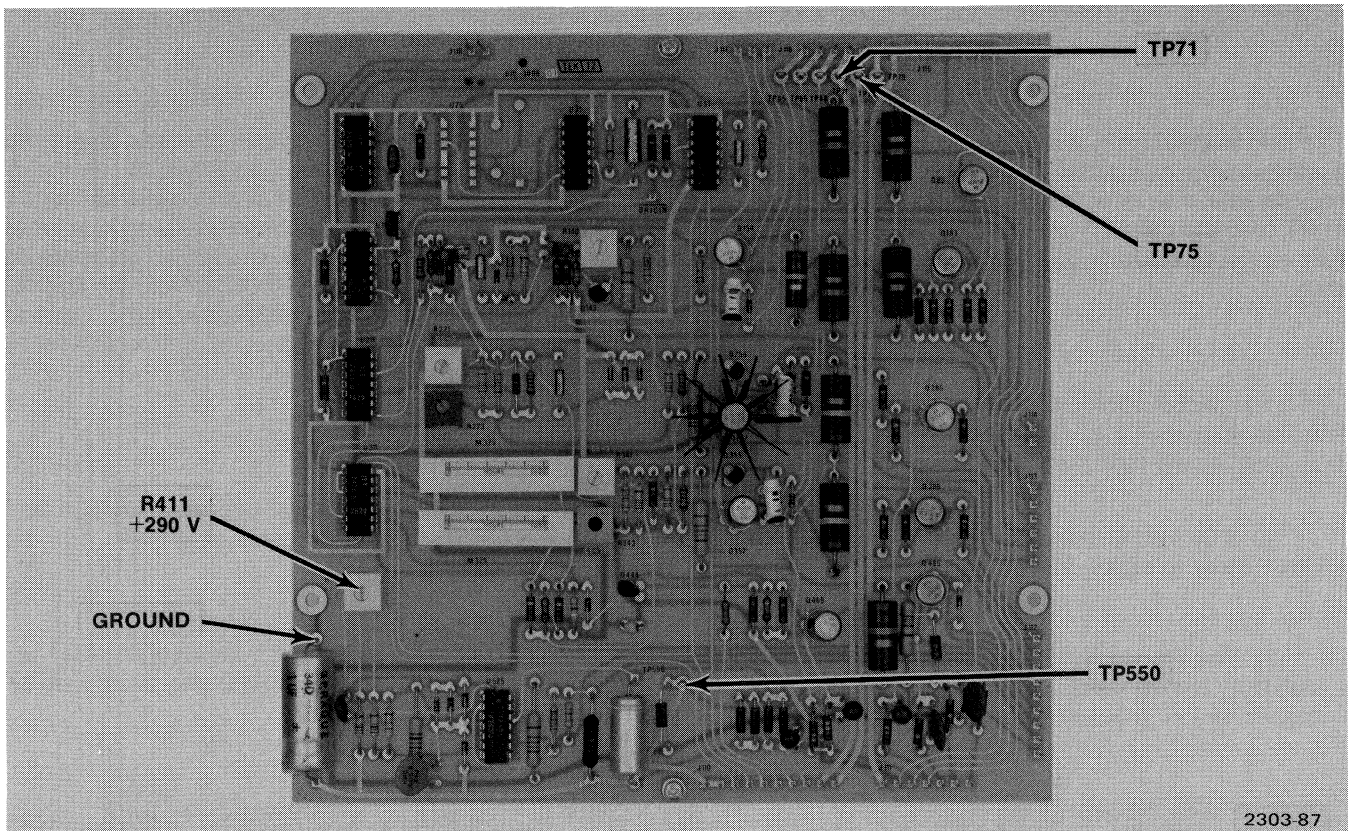

Fig. 4-12. Storage Board showing Flood Gun Filament test points and +290 V adjustment.
b. Place voltmeter probes on TP71 and TP75 (on the Storage board) to measure a voltage difference of 26.8 V dc between the test points (refer to Fig. 4-12).
a. Using a voltmeter set to measure 300 V with an accuracy of 1%, adjust R411 for +290 V measured at TP550 with respect to the ground point. See Fig. 4-12 for locations.